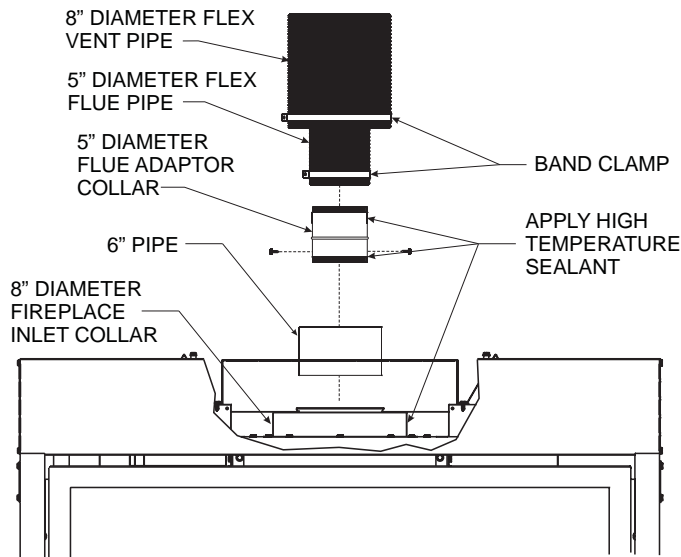

Figure 54
10. Apply sealant to the outside of the flue pipe adapter and connect to the flex flue pipe. Then insert the adapter into the fireplace flue. Secure flue adapter to the fireplace flue with a minimum of two screws provided. **See Figure 54.**